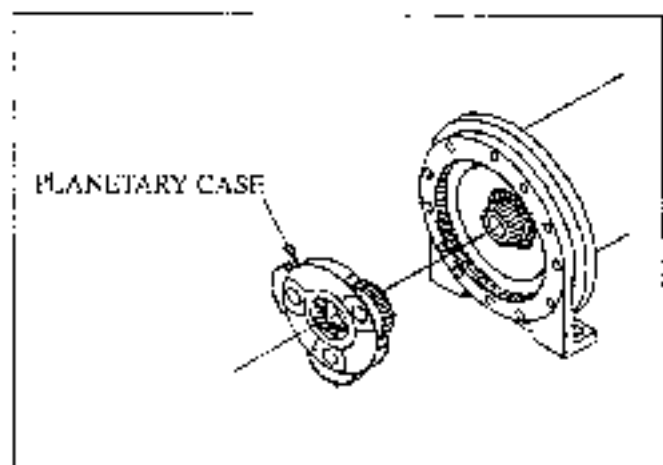

Figure 18
- (17) Lift out the planetary case assembly. See Figure 18.